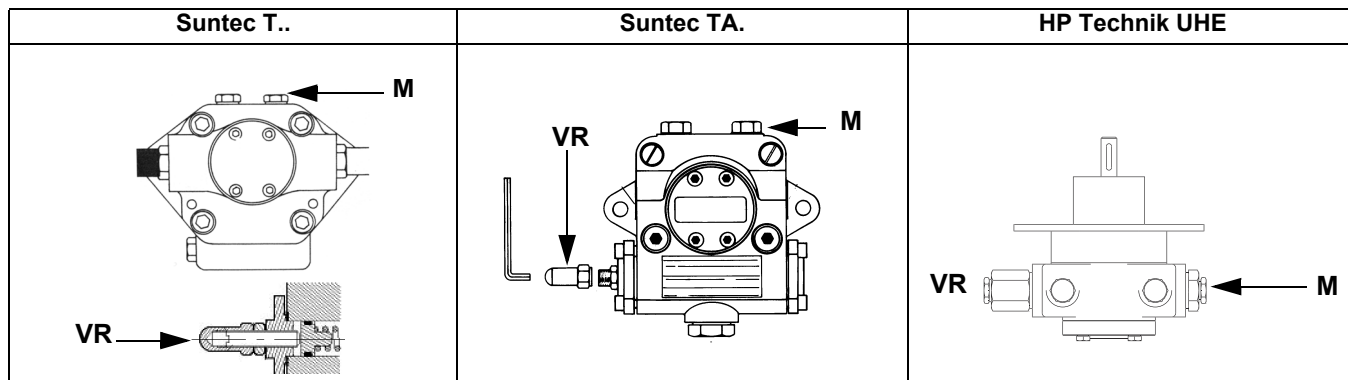
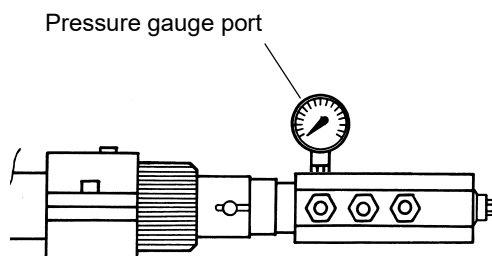

Fig. 5
Fig. 6
- 3 bleed the air from the **M** pressure gauge port (Fig. 5) by loosening the cap without removing it, then release the contactor.
- 5 Only if necessary, adjust the supply pressure as follows (see related paragraph); insert a pressure gauge into the port shown on Fig. 6 and act on the pump adjusting screw **VR** (see Fig. 5) as to get the nozzle pressure at 20bar (Monarch or Fluidics nozzles - see page 45-38).
- 2 Remove screws 1 ÷ 4 using the Allen key n. 3 and remove filter cover 5 in Fig. 5.